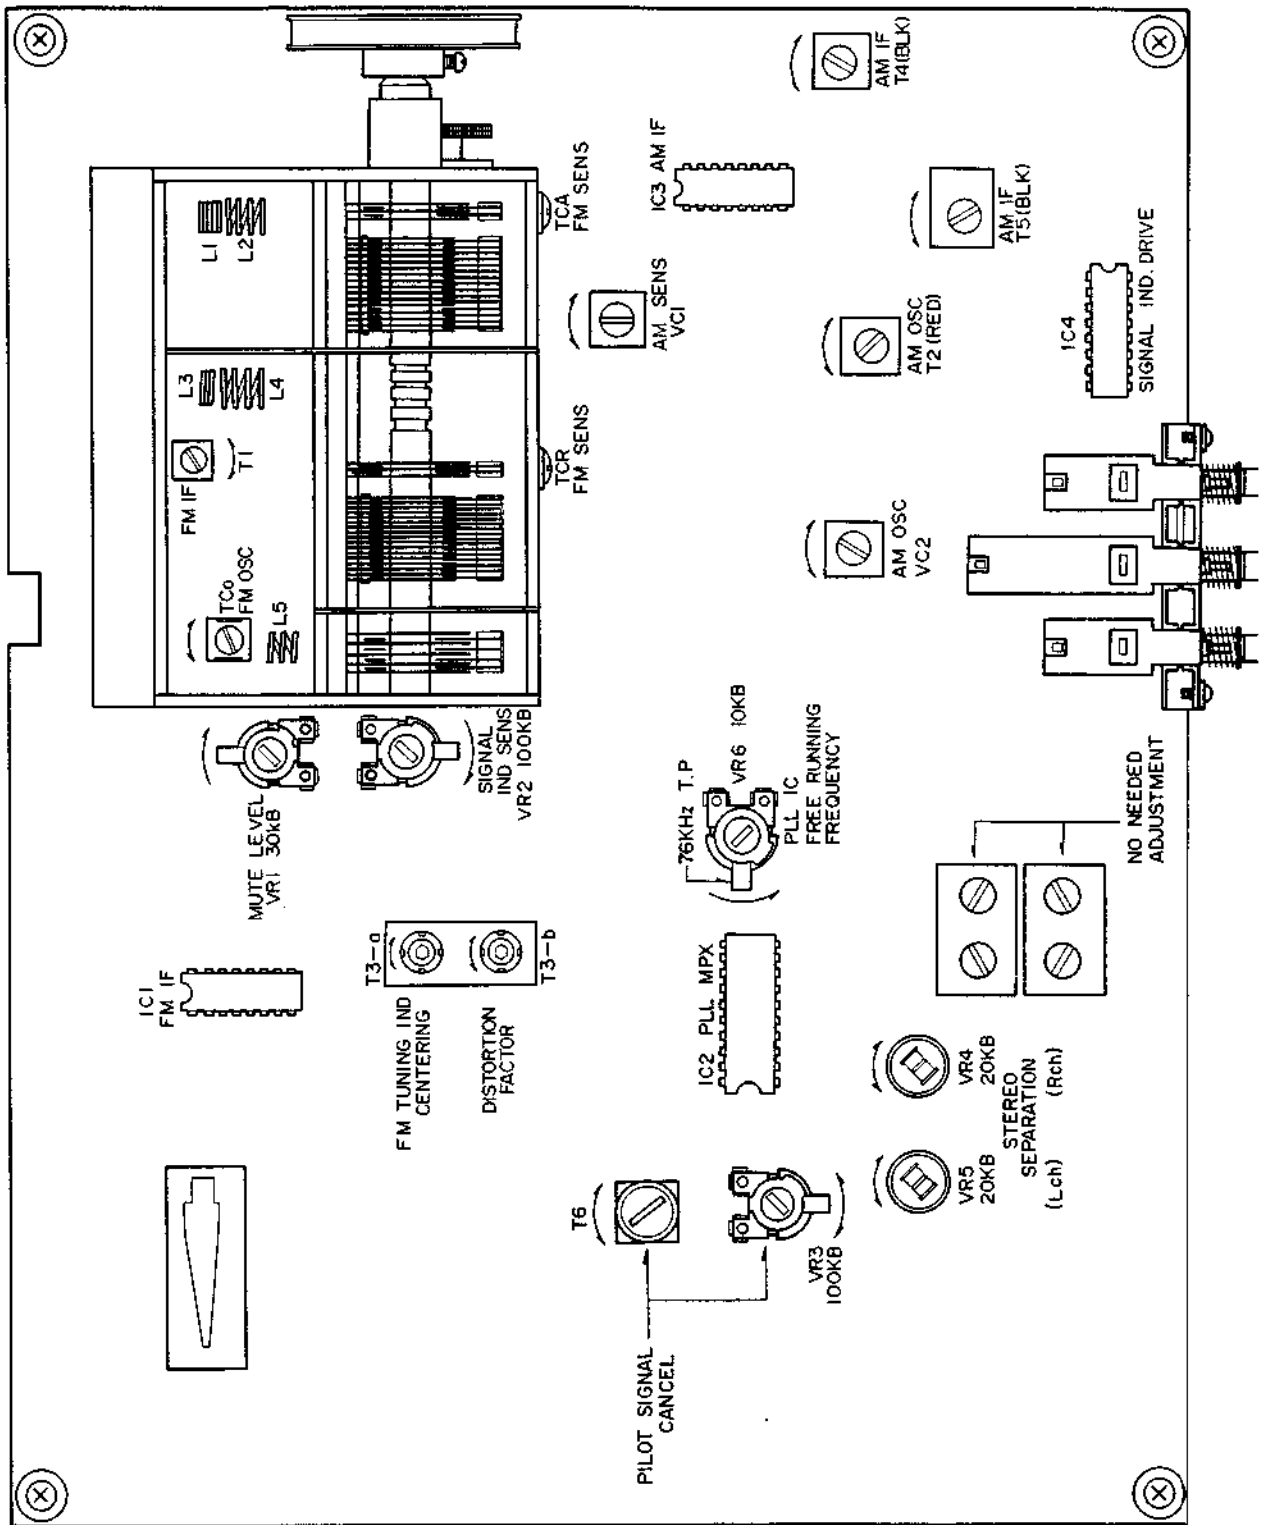

Fig. 5 Tuner P.C Board ATK-301A
1. FM TUNER SECTION ADJUSTMENT (Refer to Figs. 5, 6)
## 2. AM TUNER SECTION ADJUSTMENT (Refer to Figs. 5, 7)